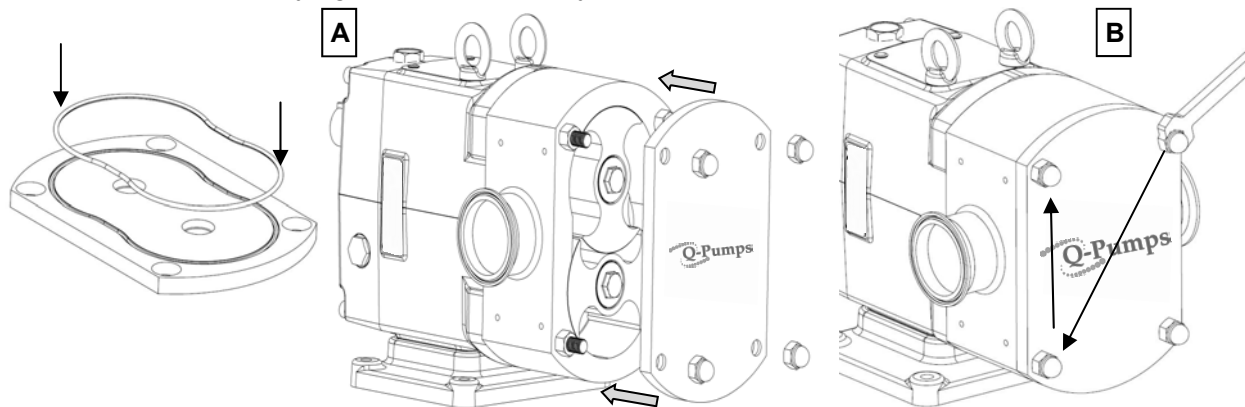
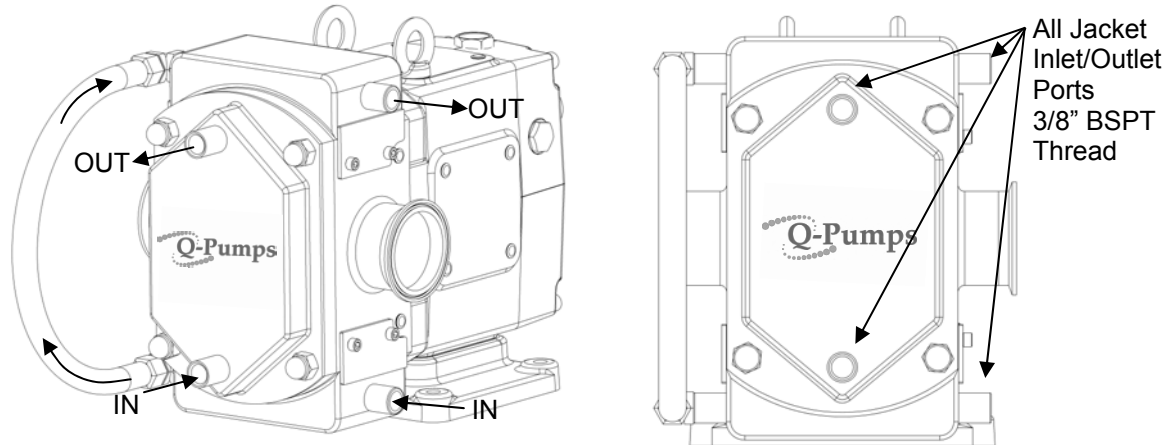

Figure 63: Cover Installation
Figure 65: Jacketed Cover
2) Install the new cover o-ring and slide the cover over the studs (Figure 63, A). Visually inspect to ensure that the cover o-ring remained in place. Using an appropriate wrench, thread the cover nuts on the studs and tighten them in an opposing manner as seen in Figure 65, so that the cover is evenly tightened to the body.
The jacketed cover and casing option (Figure 65) allows for heating or cooling fluid to be circulated around the pump's fluid end to match the demands of certain products. This fluid (media) can preheat or cool the product and sustain temperature during operation and short shut downs. The jacketed cover is not a heat exchanger and is not designed to primarily control the product temperature. Please contact Q-Pumps for replacement information.